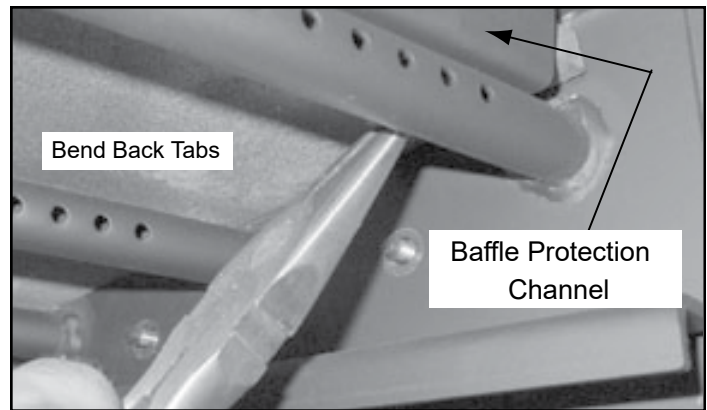

Figure 24.2
2. Remove the baffle protection channel by bending back the tabs using needle nose pliers located at the right and left side of the protection cover. Lift the cover up slightly and pull toward the front and out of the firebox (**Figure 24.2**).